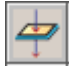

Figure 4.37 Icon bar
5. You can also change the displayed model using the view manipulation icons on the **Icon bar** illustrated in Figure 4.37.